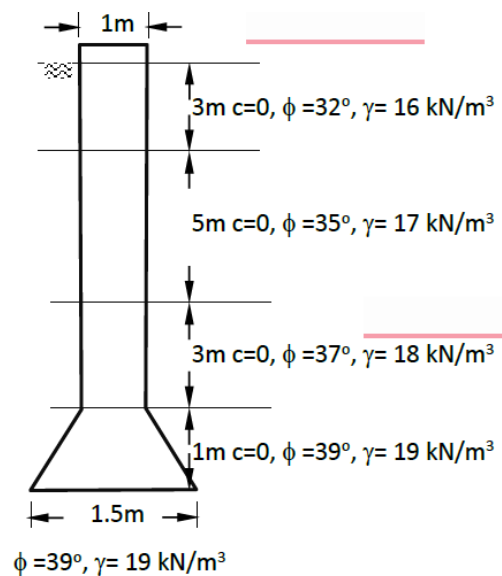

Figure 2
- 15 a) The figure 2 shows a concrete drilled pier with a belled bottom. The details of the pile and the soil properties are given in the figure. Estimate the ultimate uplift load. Neglect conical shape of the belled portion in computing self-weight. (10)